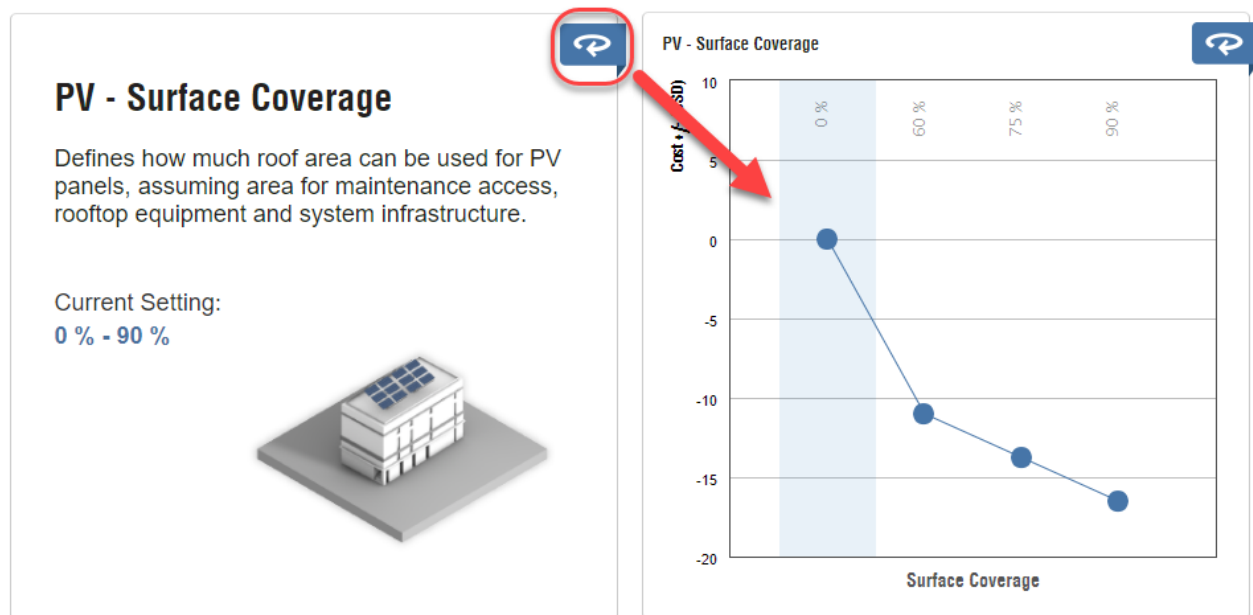

Figure 1.10: Changing the PV to 0%
Let’s add one more where the photovoltaics (PV) is not being counted by default. Scroll-down to the bottom and select “PV – Surface Coverage” to open the tile. Select it and change the sliders so it is set to “0%” for PV, see Figure 1.10.